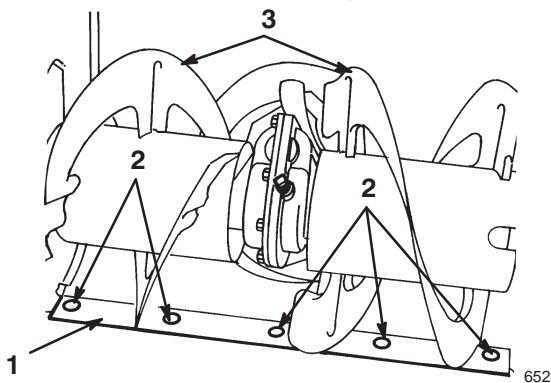

Figure 20
- Skid (2)
- Flange nuts (4)
- Auger side plate (2)
- Support the *auger blades* so that they are 1/8 inch (3 millimeters) off the ground (Fig. 20).
- To adjust the scraper, loosen the five mounting screws (Fig. 20), level the scraper, and tighten the mounting screws.